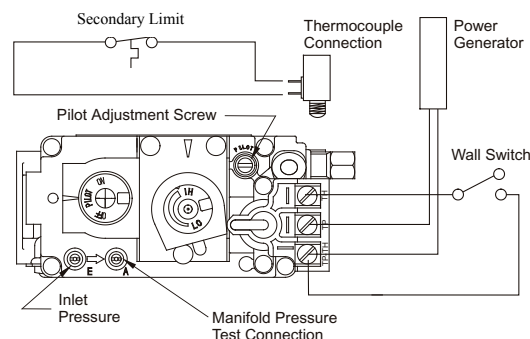

Figure 19. Sit Nova 820 gas valve.
- Have the fireplace installation inspected yearly, including a visual check of the vent system, the burner and the pilot flame. For convenience a 1/8" manifold pressure tap is supplied on the gas valve for a test gauge connection. See Figure 19.
1. Locate Pilot Adjustment Screw. (See figure 19.)
Pilot won't ignite	Disconnect remote wires and try to light pilot. If pilot now works, remote connections are faulty. Check wiring diagram figure 19 .
Main burner will not light	<ol style="list-style-type: none"> <li>1. Check wiring (see figure 19)</li> <li>2. Check wall switch for proper connection.</li> <li>3. Check pilot burner. If extinguished: <ol style="list-style-type: none"> <li>a. Allow fireplace to cool, then try to relight.</li> <li>b. If condition persists, call a qualified service person.</li> </ol> </li> </ol>